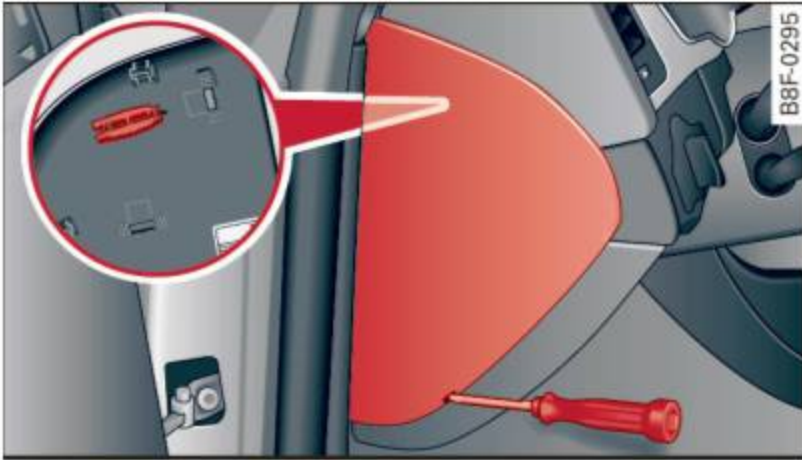

Fig. 191 Left cockpit: fuse panel cover
- ▶ Remove the appropriate cover ⇒ *fig. 191* or ⇒ *page 215, fig. 165*.
- ▶ Remove the clamp from the rear side of the fuse cover ⇒ *fig. 191*.